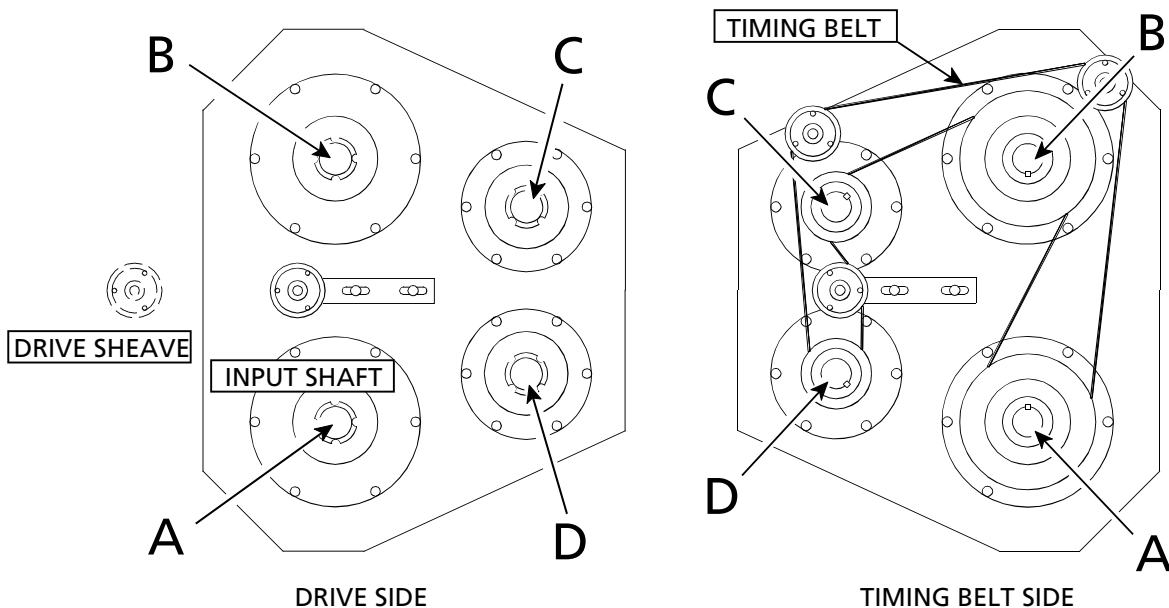

Figure 2 - Drive Unit Shaft Identification (Labels shown do NOT appear on ends of actual shafts)
2. On the drive belt side, loosen and remove the v-belt. Then remove the large sheave from its shaft. A hole will be exposed into which a timing rod will be inserted in a later step. We will refer to this input shaft as Shaft A in subsequent instructions. The input shaft is a "large weight" shaft. The other large weight shaft will be referred to as Shaft B, and the small weight shafts will be Shafts C and D, as one moves clockwise around the drive housing. See figure 2.